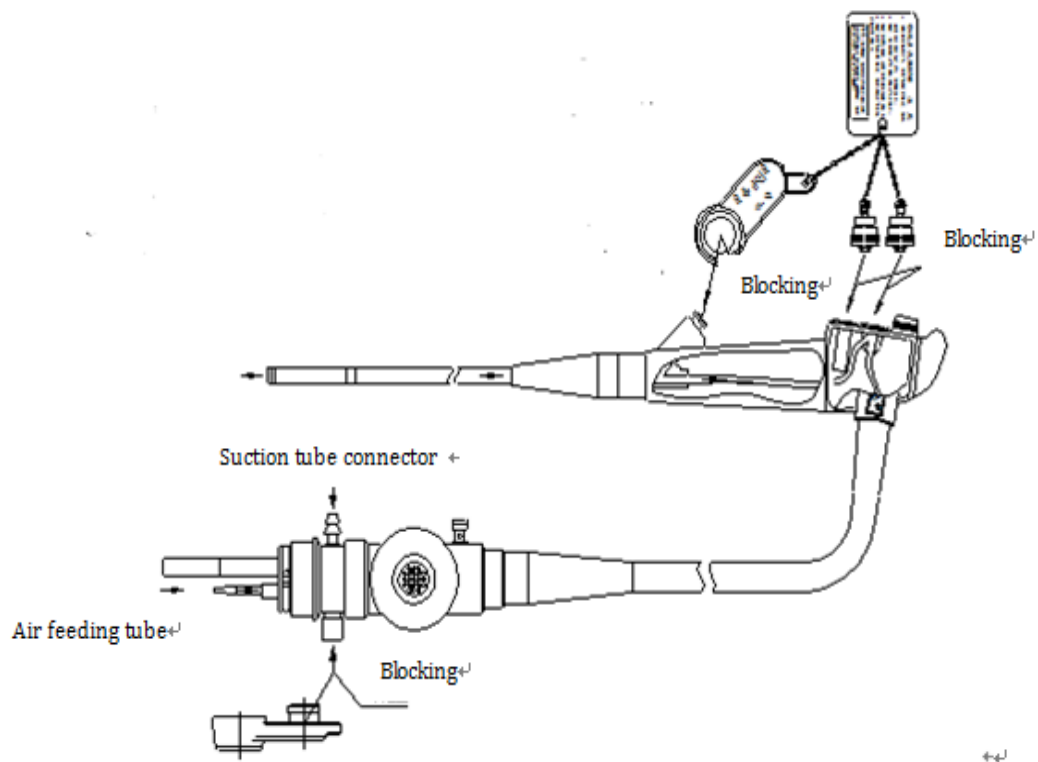

Figure 5.3
- (1) Immerse the fiber gastrointestinal endoscope in disinfectant solution; clean the insertion flexible tube slightly and repeatedly with gauze or soft sponge.
- (2) Put the inlet valve of the tube cleaner (disinfector) in disinfectant solution. Disinfect the air/water tube, instrument channel tube and suction tube of the endoscope respectively according to the cleaning method of them.
- (3) After disinfecting the endoscope, rinse it with clear water to remove the disinfectant residual. Meanwhile, get rid of the disinfectant residual in the tube according to the cleaning method of the air/water tube, instrument channel tube and suction tube of the endoscope.
- (4) Use dry gauze to wipe the surface of the fiber gastrointestinal endoscope.
- (5) Seal the water bottle connector on the light guide connector and the air/water cylinder on the grip section, then connect the light guide connector to the video system center, and turn on the air pump to thoroughly dry the air/water channel tube (See Figure 5.3).
- (6) Seal the instrument channel connector and suction cylinder, connect the suction tube, switch on the suction pump to completely dry the instrument channel, and then detach the light guide connector from the video system center (See Figure 5.3).